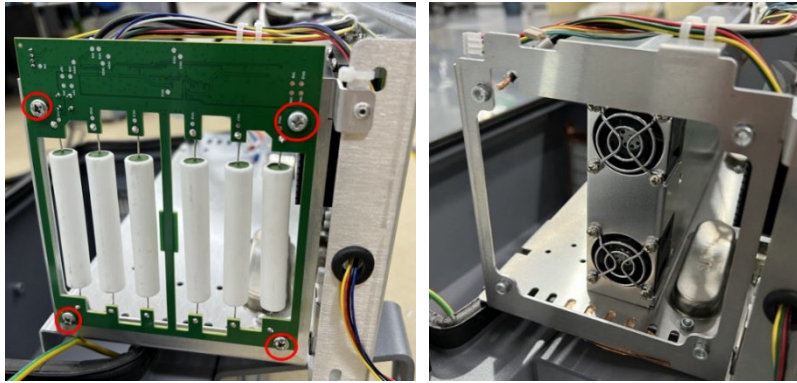

Figure 3-36 Remove the brake board
- Remove the 4 cross slot head screws and remove the brake board that need to be replaced, as shown in Figure 3-36: